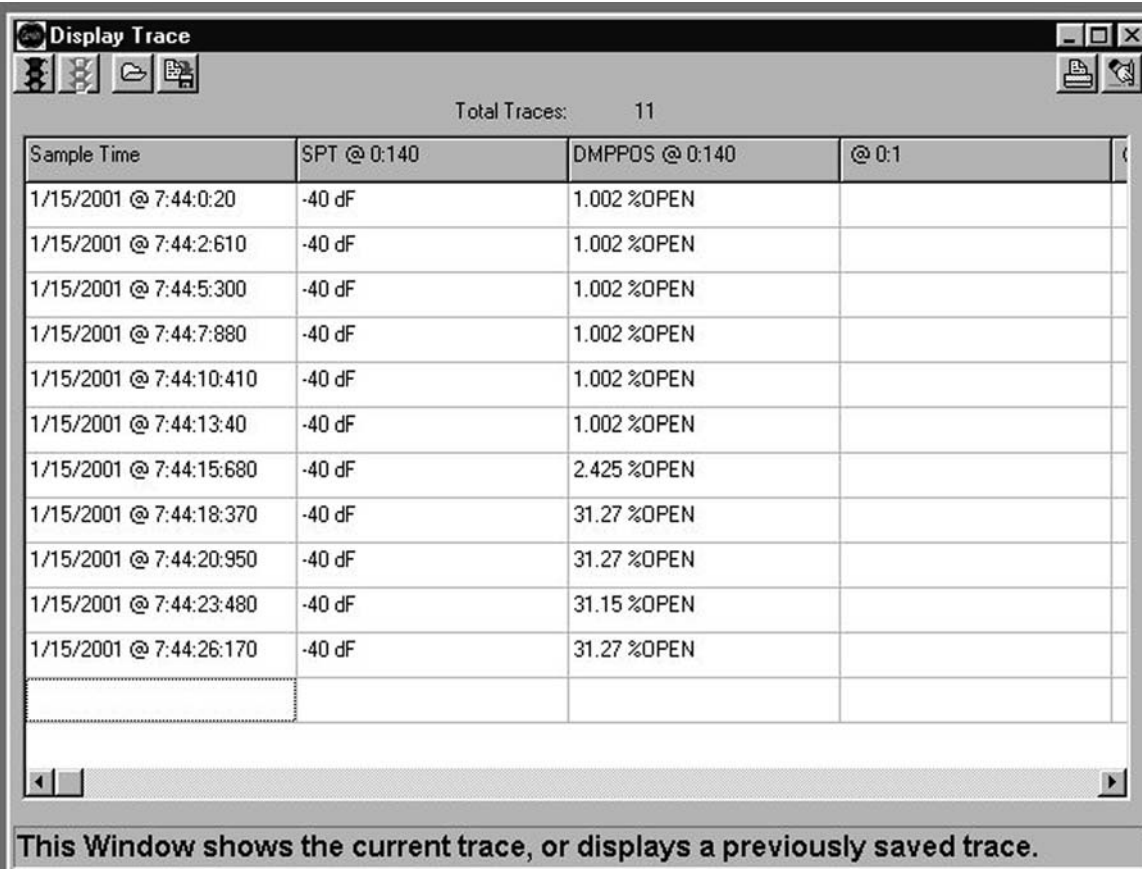

Fig. 15 — Point Trace Utility Trace Display
**PERFORM A TRACE/DISPLAY A SAVED TRACE** — The Perform a Trace/Display Saved Trace Actions menu item is used to display a trace. See Fig. 15.